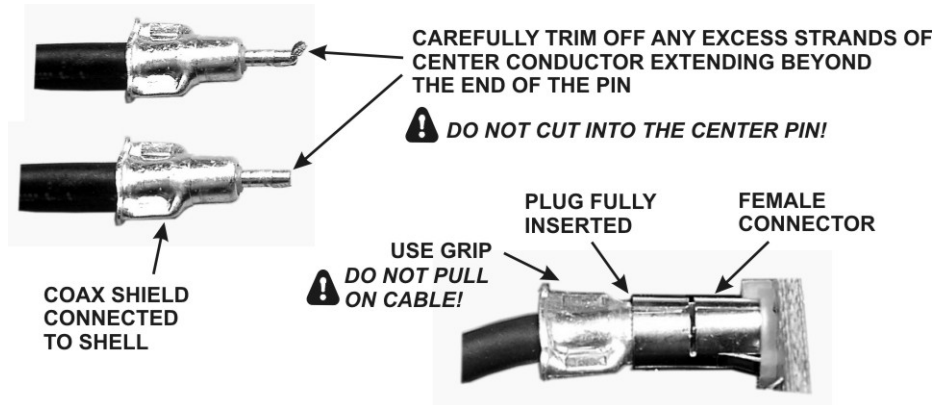

Figure 74. TMP Cable Connectors.
□ Locate the three TMP cables. They are about 1/8" (3 mm) diameter coaxial cables with connectors at each end as shown in Figure 74. Check each cable and trim any excess center conductor strands extending beyond the end of the pin as shown. This will make mating the connectors much easier.
□ Install the three TMP cables between connectors on the KREF3 board, the main RF board and the KSYN3 board as follows. Handle the connectors by the finger-grip area shown in Figure 74, especially if you unplug a connector. **Do not pull on the coaxial cable to unplug a connector!** When mating the connectors, be sure the plugs are fully inserted as shown in Figure 74. To make the connectors easier to mate, first be sure the center pin is started in the socket, then you may twist the connector back and forth while holding it by the metal ears if needed to seat it fully as shown in Figure 74.